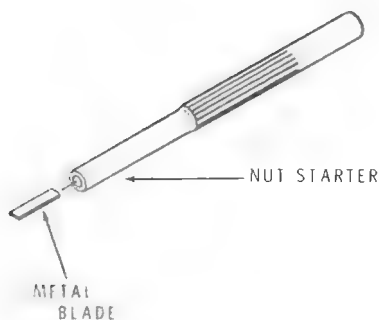

Figure 1
- () Prepare an alignment tool in the following manner: Insert the 1/8" x 3/4" alignment tool blade into the small end of the nut starter as shown in Figure 1. Leave 1/4" exposed.